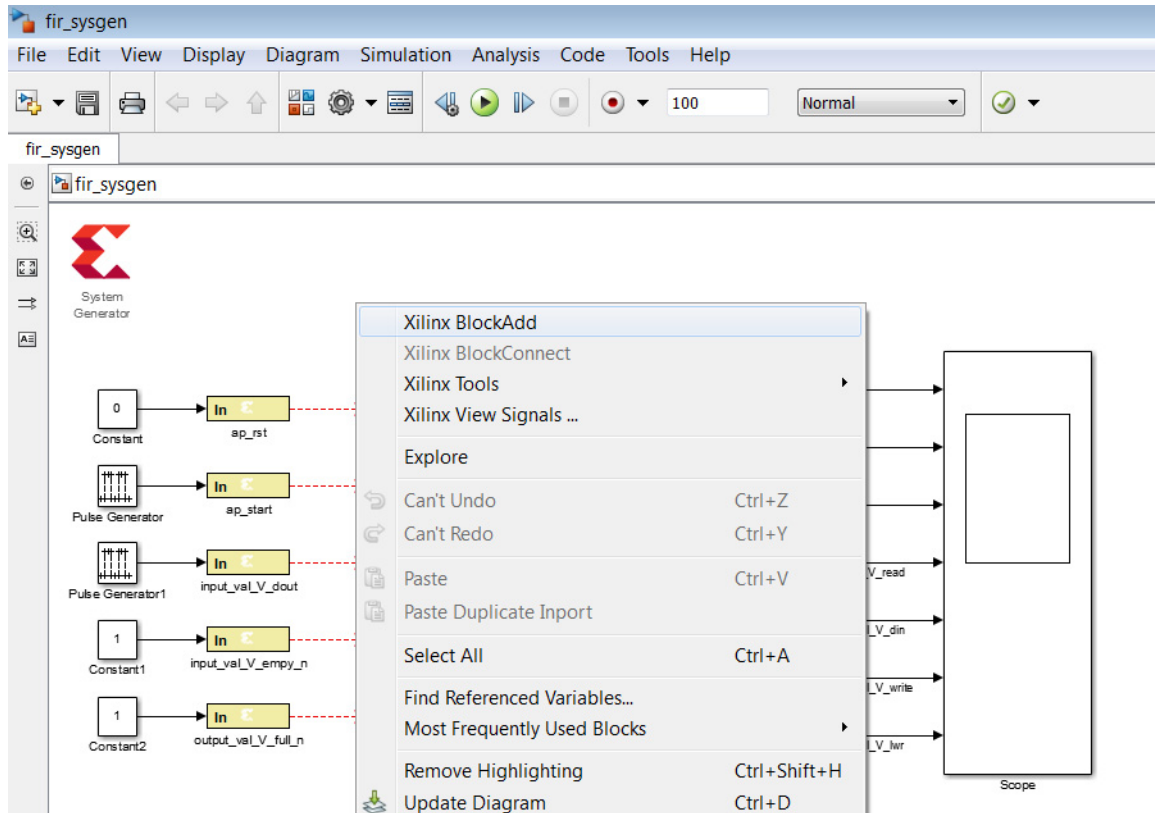

Figure 11-6: Adding a New Block
4. Right-click in the canvas and select **Xilinx BlockAdd**, as shown in Figure 11-6.